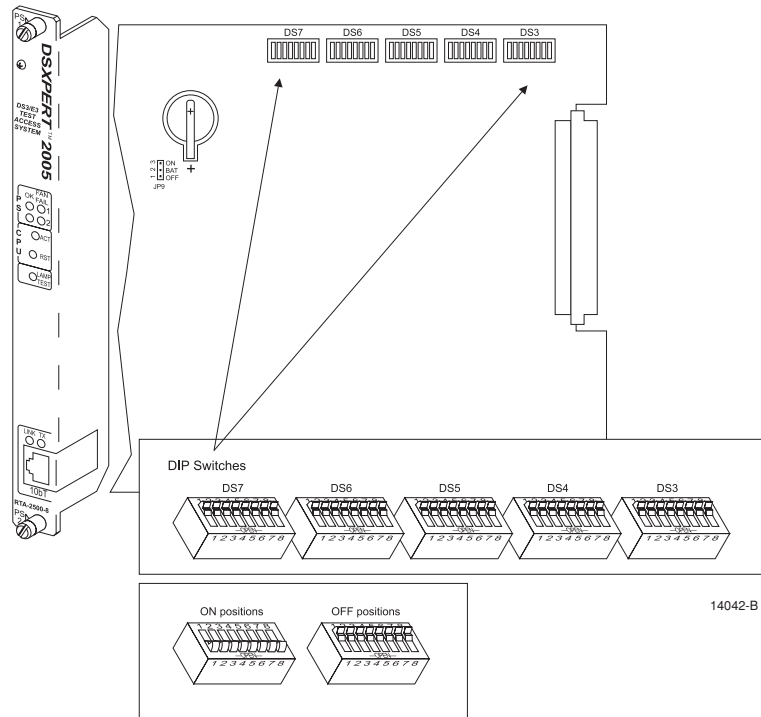

Figure 12. DIP Switch Packages on Control Card (ON and OFF positions shown)
Before installing the control card, the onboard DIP switches must be properly configured to ensure proper operation of the DSXpert unit. Figure 12 shows the location of the DIP switch packages on the control card and their ON/OFF positions.
2. For each package, set switches according to the following DIP Switch Tables 2 through 6. Refer to Figure 12 for ON/OFF positions of the DIP switches.
2. For each package, set switches according to the following DIP switch tables 2 through 6. Refer to figure 12 for ON/OFF positions of the DIP switches.